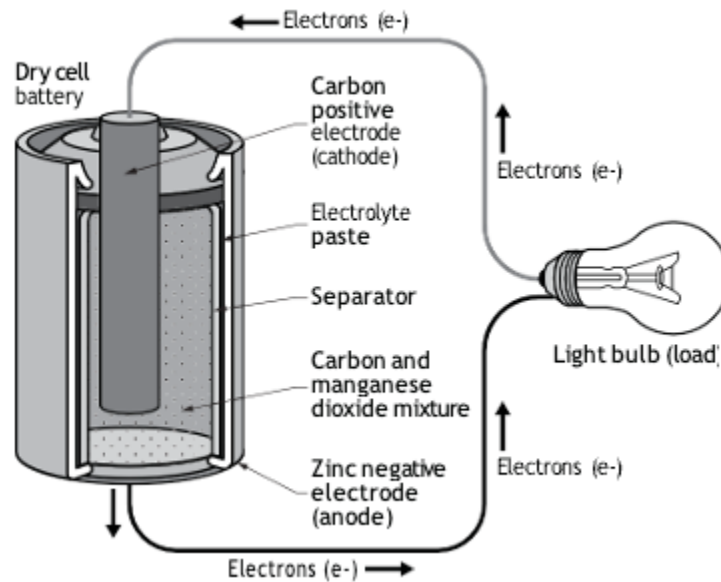

Figure 7 A cell creating electricity (BC Industry Training Authority, 2019). CC BY-NC-SA 4.0
A battery is a common source of **direct current (DC)** (Figure 7). A battery will always have two poles or terminals: one negative and one positive. A chemical reaction inside the battery between the anode and the cathode causes electrons to move through an *electrolyte* (acid or alkali) to the negative terminal, giving it a negative (–) electrical charge (creating electrical flow). The other terminal has a corresponding lack of electrons, making its charge positive (+). If a wire is connected from a negative terminal to a light bulb and then to a positive terminal, electrons will flow through the conductors from the negative terminal to the positive terminal through the bulb, and the bulb will light.